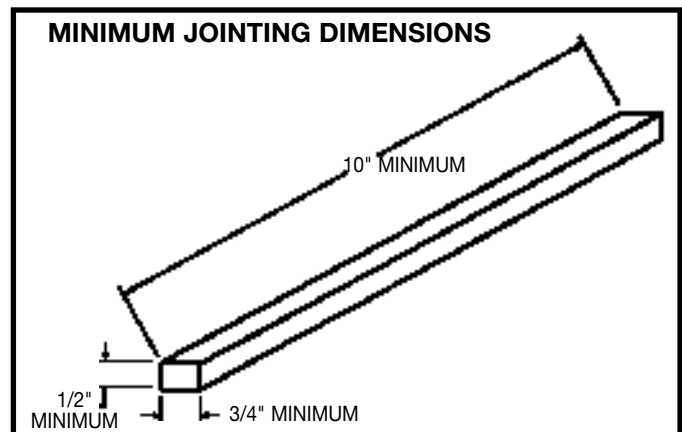

Fig. 39A
**DO NOT PERFORM JOINTING OPERATIONS ON MATERIAL SHORTER THAN 10 INCHES, NARROWER THAN 3/4 INCH, OR LESS THAN 1/2 INCH THICK (REFER TO FIG. 39A).**